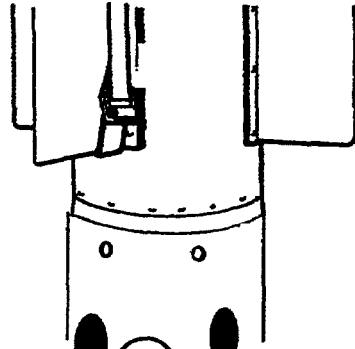

Figure A-3. Safety Harness Installation
- a. Referring to Figure A-3, install safety harness on tail section as follows: